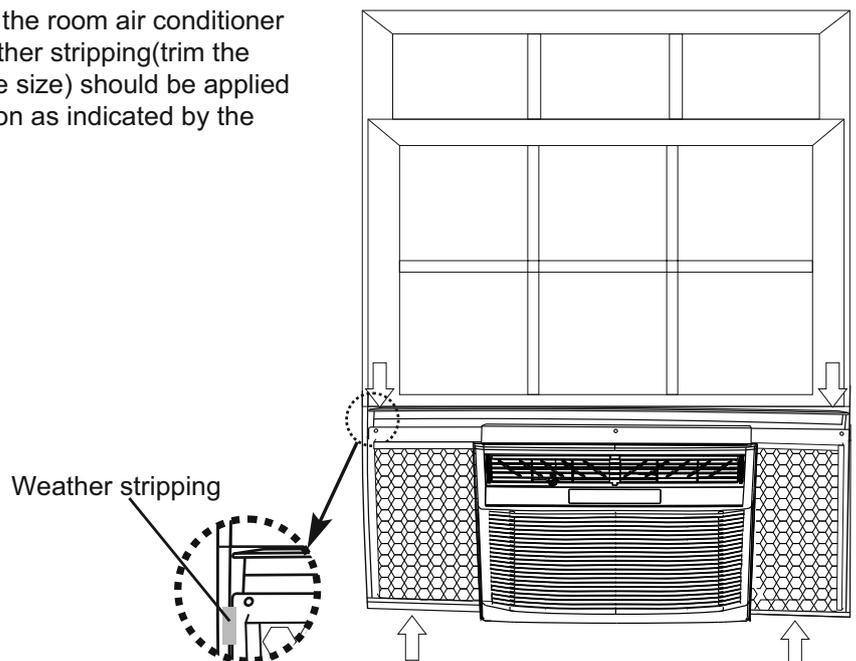

FIG. 25
- 11 In order to minimize air leaks between the room air conditioner and the window opening, suitable weather stripping (trim the provided weather stripping into suitable size) should be applied in case of any gaps found at the location as indicated by the arrows in Fig. 25.